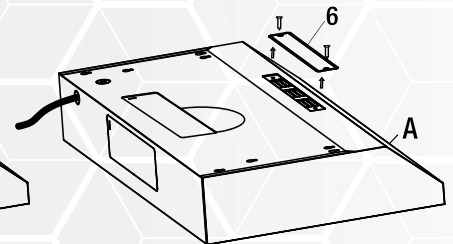

Fig. 12
- If you are venting indoors, unscrew the 2 screws holding cover (6) in place and remove the cover as per Fig. 12. **DO NOT REMOVE ANY OTHER VENTING HOLE COVER.**